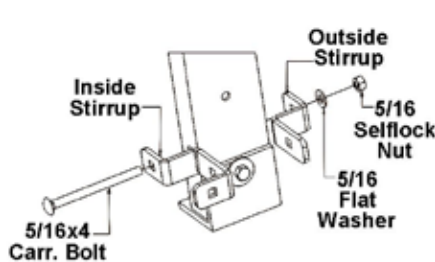
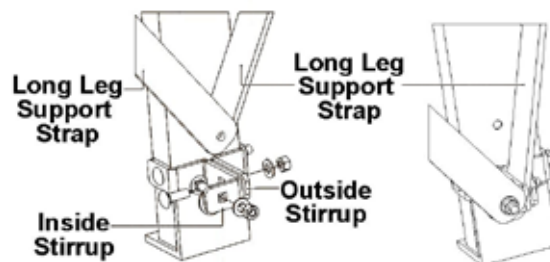

Fig.3.18
Fig.3.19
**3.7.2 Platform Long Leg Support - Straps:** With the platform assembly complete and set to the proper height (achieved after all ramp sections and platforms are contiguous to ensure platform is in location and leveled) install the stirrups to each leg. Making sure that the inside stirrups are to the inside of the platform; run a 5/16x4 carriage bolt through the inside stirrup, platform leg, and the outside stirrup. Fasten with a flat washer and 5/16 self locking nut (**Fig.3.18**). With stirrups installed at all leg locations begin to install the long leg support straps: two per side of platform. There will be two long support straps attached to each of the stirrups, one between the stirrups and one to the extra tab on the inside stirrup. Run the 5/16x1 carriage bolt through the square hole of the stirrup and the round hole in the long leg strap and fasten with a flat washer and self locking nut, and finger tighten hardware. (**Fig.3.19**) Pivot the long leg support strap up to and behind the bottom support angle. Align the long leg support strap round hole with the slotted hole in the bottom support angle; run a 5/16x1 carriage bolt through and finger tighten with a flat washer and self locking nut (**Fig.3.20**). Repeat this step at each location. Once all long leg straps have been installed go back and tighten hardware the rest of the way.